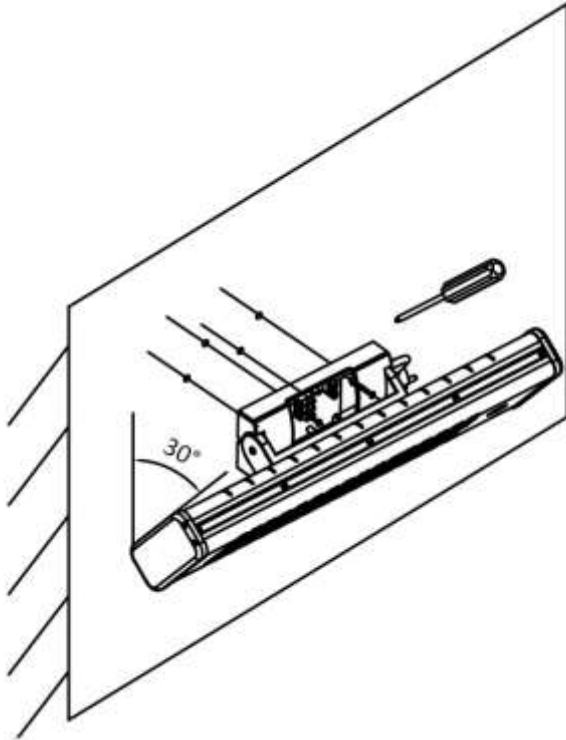

Fig.5
6. Hold tight to the wall mount and orient the heater making sure the grille faces towards you. Swing the heater all the way down. Fix the wall mount and heater to the wall by applying two provided screws through two holes on top of the wall mount using a screwdriver. (See Fig. 5) It is recommended to use shorter screwdriver in order to get into the space of the wall mount structure more easily.